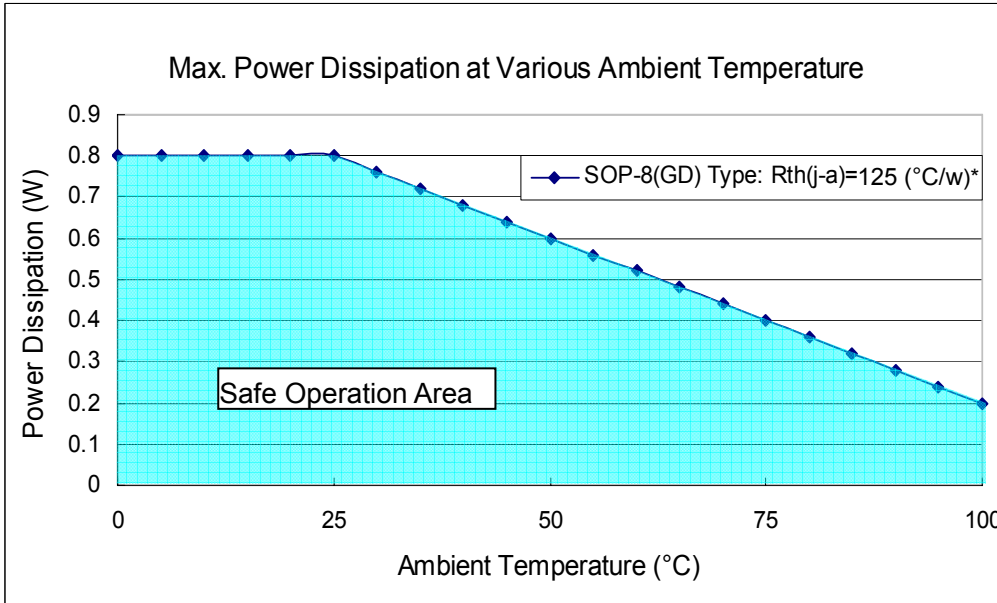

Figure 11
**Users must notice that the power dissipation (almost equaling to $I_{OUTn} \times V_{DSn}$) should be within the Safe Operation Area shown in Figure 11.